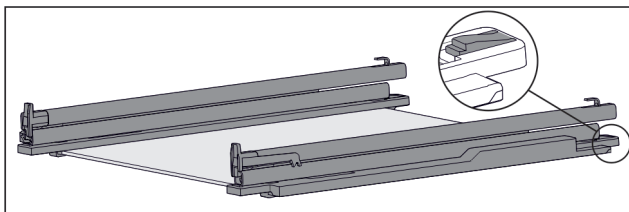

Fig. 151 Glass shelf with rails and retaining parts
- ▶ Press down retaining part at the rear (see *Fig. 151*) and at the same time push the rail back.